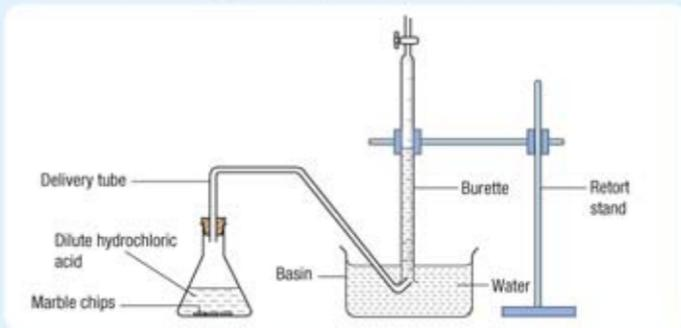

Figure 4.16
5. Immediately close the conical flask with the rubber stopper which is connected to a delivery tube. The other end of the delivery tube is placed under the burette (Figure 4.16). Start the stopwatch.